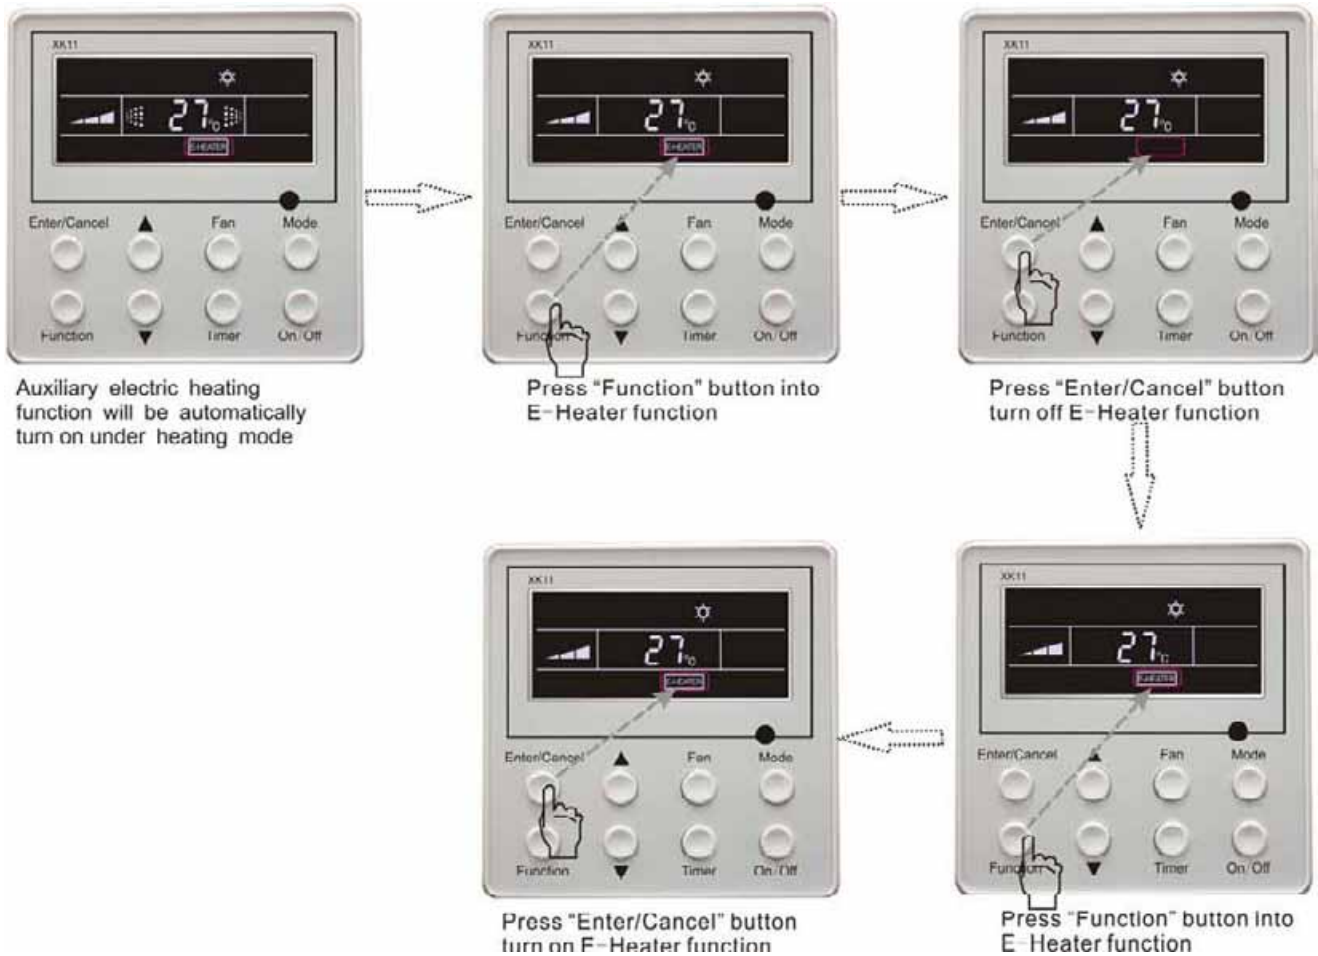

Fig. 5.11 Auxiliary Electric Heating Function Setting
The setting of this function is shown as Fig.5.11 below:
1) E-heater can not be set in cooling, dry and fan mode, E-heater mark won't be displayed. The setting is shown in Fig.5.11.